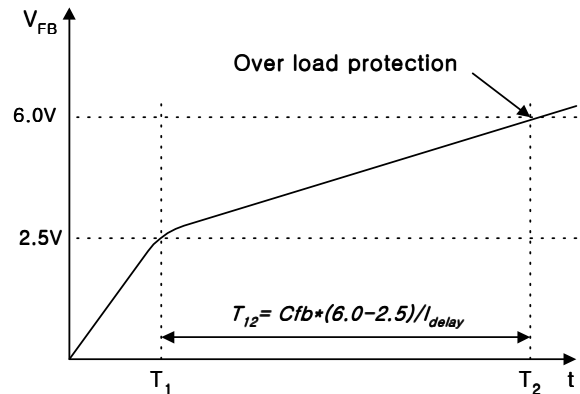

Figure 7. Over load protection
**3.1 Over Load Protection (OLP) :** Overload is defined as the load current exceeding a pre-set level due to an unexpected event. In this situation, the protection circuit should be activated in order to protect the SMPS. However, even when the SMPS is in the normal operation, the over load protection circuit can be activated during the load transition. In order to avoid this undesired operation, the over load protection circuit is designed to be activated after a specified time to determine whether it is a transient situation or an overload situation. Because of the pulse-by-pulse current limit capability, the maximum peak current through the Sense FET is limited, and therefore the maximum input power is restricted with a given input voltage. If the output consumes beyond this maximum power, the output voltage ( $V_o$ ) decreases below the set voltage. This reduces the current through the opto-coupler LED, which also reduces the opto-coupler transistor current, thus increasing the feedback voltage ( $V_{fb}$ ). If  $V_{fb}$  exceeds 2.5V, D1 is blocked and the 3.5uA current source starts to charge  $C_B$  slowly up to  $V_{cc}$ . In this condition,  $V_{fb}$  continues increasing until it reaches 6V, when the switching operation is terminated as shown in Figure 7. The delay time for shutdown is the time required to charge  $C_B$  from 2.5V to 6.0V with 3.5uA. In general, a 10 ~ 50 ms delay time is typical for most applications.